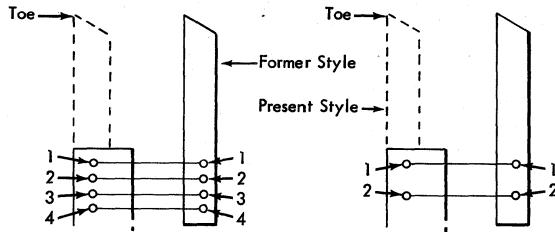

Figure 47. Punch and Extension
Punch Penetration (Printing Punch). Satisfactory punching should result from the print magnet yoke adjustment given in the Print Unit section. On machines without adjustable penetration (Figure 47) the yoke adjustment must be altered and the printing pressure readjusted if additional penetration is needed.
Two different die and stripper clearances have been used. Some machines have an opening of .020-inch to .026-inch. Current machines are set at .012-inch to .017-inch. On the .020-inch to .026-inch die and stripping machines, the number 2 hole is used as a starting point (Figure 47). Current machines use the number 1 hole as a starting point. As the retaining pin is moved to the next higher numbered hole, .010-inch more punch penetration is obtained. NOTE: Always insert the retaining pin in identically numbered holes in both the extension and punch.
2. Slide plate off its guide pins and punch extensions (Figure 47). Any punch is accessible by lifting extension over associated punch operating arm and pulling it straight out.